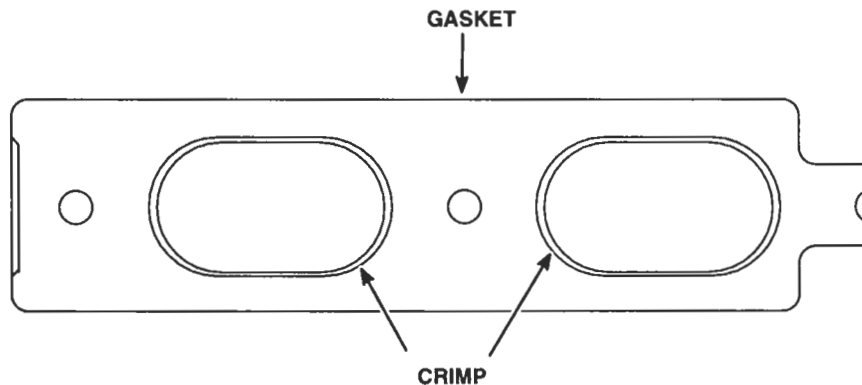

Figure 2. Metal Clad Exhaust Manifold Gasket
1. Place a new gasket over the studs and up against the cylinder head. Metal-clad gaskets may look reusable, but once they have been used, they cannot be reused (Figure 2.)